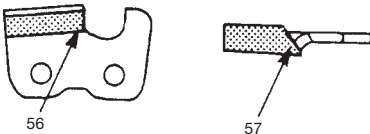

Fig. 44
- 6) File enough to remove any damage to cutting edges (side plate (56) and top plate (57)) of cutter. (Fig. 44)